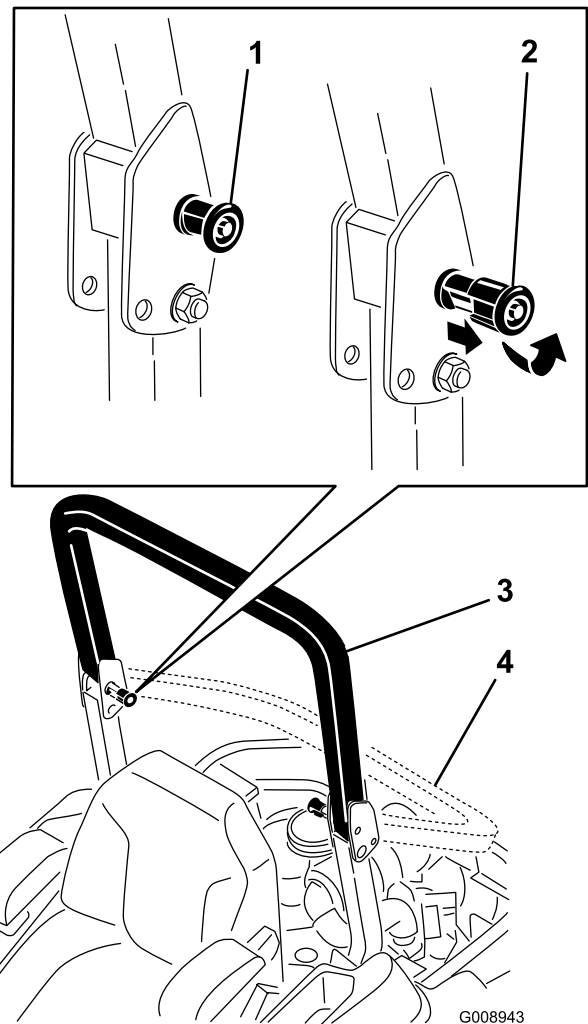

Figure 8
2. Pull both knobs out and rotate them 90° so they are not engaged (Figure 8).
3. Lower the roll bar to the down position (Figure 8).
4. To raise the roll bar, raise the roll bar to the operate position, rotate the knobs so that they move partially into the grooves (Figure 8).
5. Raise the roll bar to the full upright position while pushing on the upper roll bar and the pins snap into position when the holes align with the pins (Figure 8).